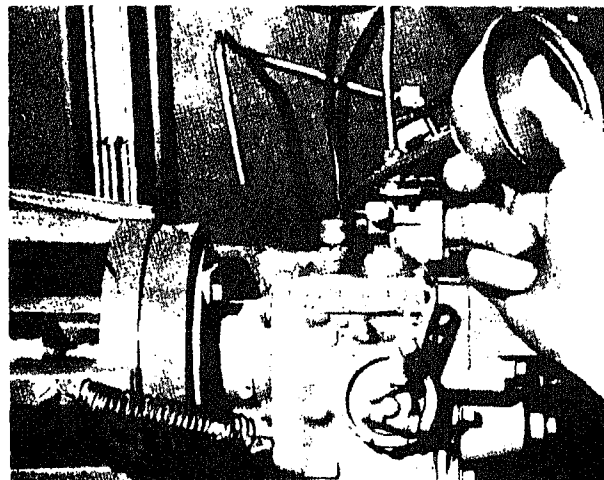

Fig. 511-16. Checking tachometer seal bore for leaks
5. Fill the tachometer seal bore with test oil from test stand. Fig. 511-16. If the fluid is drawn into the pump, replace the seal.